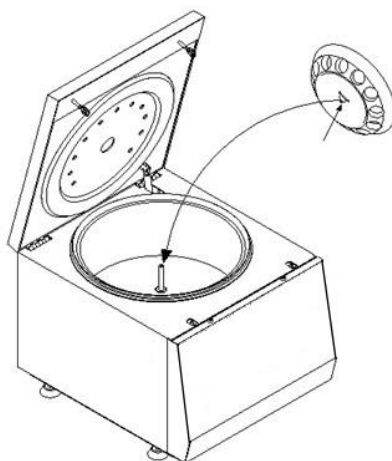

Figure 6
- Be careful that the rotor fits on the drive shaft (See Figure 6).